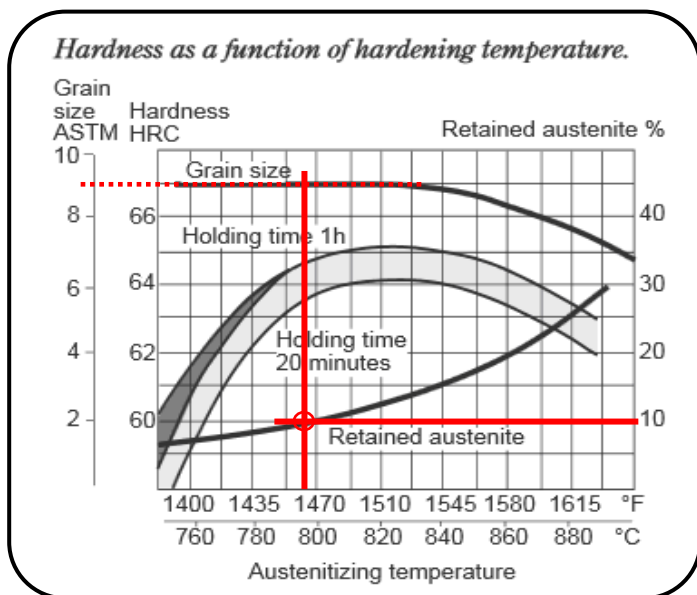

Fig. 5: Grain Size and RA of O1 Tool Steel
Smaller grain size makes steel tougher. My research in this area shows that grain size is a function of the Austenitizing temperature (Fig. 5) and possibly rate of cooling. Since I am using 1460°F (middle the range for fine grain), for O1 Tool Steel, the ASTM grain size number is ~9 (considered to be “Fine”).
RA is controlled by the heat treat process. The chart below (Fig. 5) shows that RA percent is a function of Austenitizing Temperature (AT). At 1460°F, for O1 Tool Steel, RA appears to be ~10% (some charts show higher RA). Per the chart below, increasing the AT temperature above ~1515° F can begin to significantly increase RA percentage as well as increasing grain size. These two factors can reduce the toughness of a throwing knife.
Based on what we have learned, so far, we are definitely staying with O1 tool steel for now. It appears to be the toughest stuff we can find at our target hardness! We are currently using the stated approaches and values (Fig. 5 and 6 targets) for heat treating all of our knives. We aren't experts at this, far from it. We're just amateurs who read, experiment and have fun making and throwing the results of our efforts. We think that anyone who has the equipment and abilities should make or have made for them, their own designs based on their style of throwing!